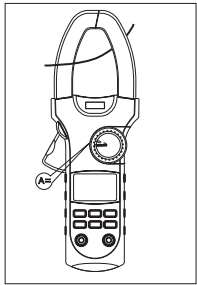

Figure 9
**G. Measuring DC Current** (See Figure 9)